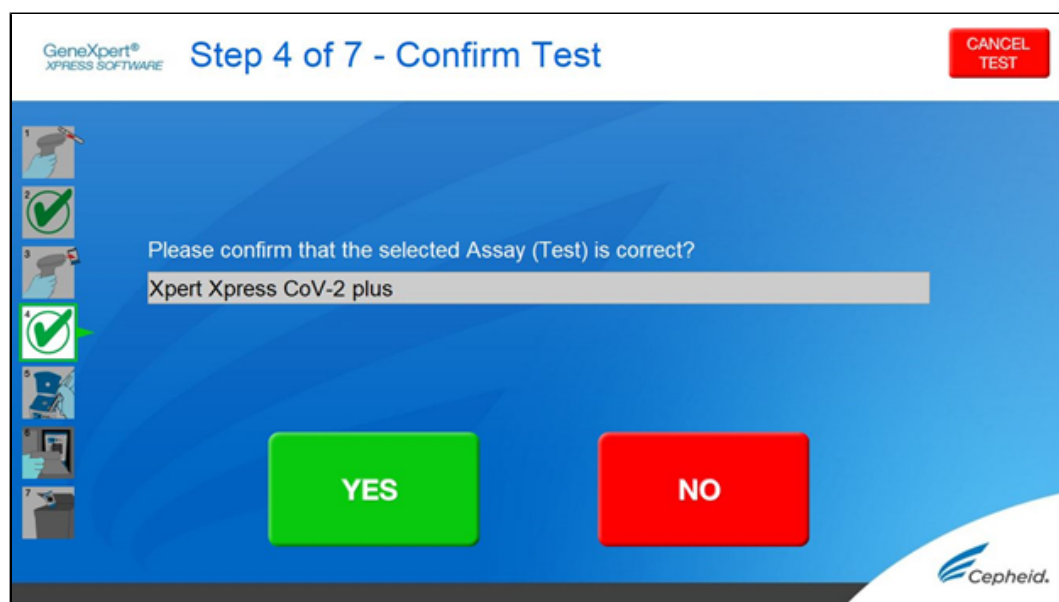

Figure 8. ConfirmTest Screen - Select Assay
3. Make the appropriate selection from the Select Assay menu, as shown in Figure 8.